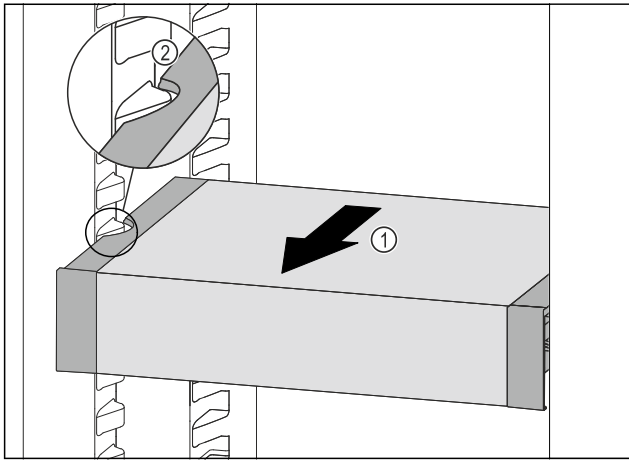

Fig. 94
- ▶ Pull VarioSafe forwards Fig. 94 (1) until the recesses in the side of the VarioSafe are at the level of the support rib in the fridge section. Fig. 94 (2)